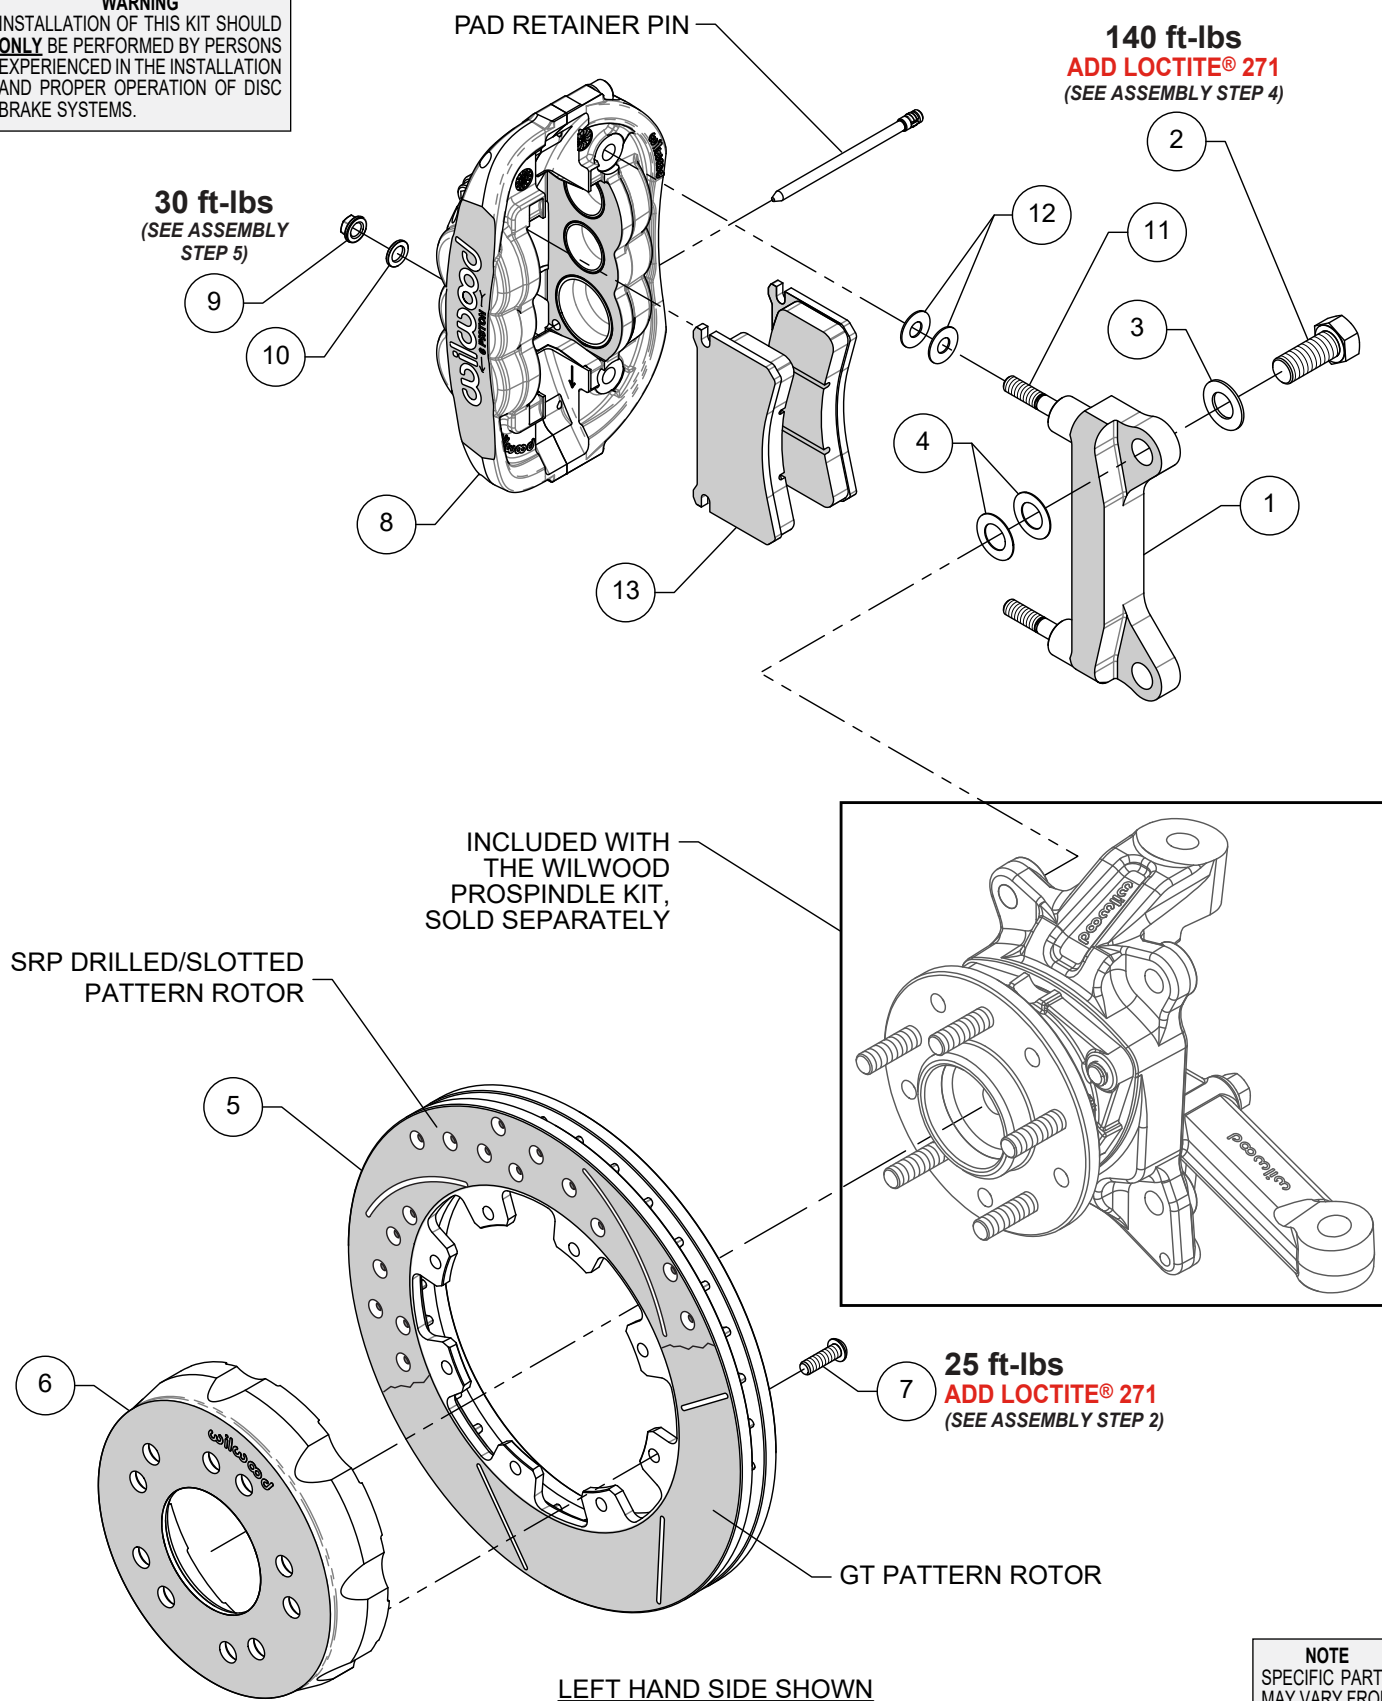

Figure 1. Typical Installation Configuration
NOTE: Numbers in parenthesis refer to the parts list and Figure 1 on the preceding pages.
STEP 1 The caliper mount bracket (1) should initially be installed with clean, dry threads on the mounting bolts. Orient the bracket as shown in Figure 1 and Photo 1 and install using mount bolts (2) and washers (3). Initially place two .024" thick shims (4) on each bolt between the bracket and spindle, Figure 1. Temporarily tighten the mounting bolts. **NOTE:** The bracket must fit squarely against the mounting points on the spindle. Inspect for interference from casting irregularities, machining ridges, burrs, etc. Later, after the caliper alignment has been checked, the mount bolts will be secured using red *Loctite*® 271.
STEP 2 Orient the rotor (5) and the hat (6) as shown in Figure 1 and Photo 2. Attach rotor to hat using bolts (7). Apply red *Loctite*® 271 to the bolt threads and torque to value shown in Figure 1 using a criss-cross pattern.
STEP 4 **NOTE:** This kit contains distinct right and left hand calipers that must be mounted in a specific direction, as described below. Initially place two .035" thick shims (12) on each stud (11) between the caliper and the bracket, as shown in Figure 1 and Photo 4. Mount the caliper (8) onto the bracket (1) using lock nuts (9) and washers (10), Figure 1. Ensure that the caliper is mounted so the largest pistons are at the rotor exit end of the caliper, in relation to the direction of forward rotor rotation. Temporarily tighten the lock nuts and view the rotor through the top opening of the caliper. The rotor should be centered in the caliper, Photo 5. If not, adjust by adding or subtracting shims (4) between the bracket and the spindle. Always use the same amount of shims on each of the two mounting bolts. Once the caliper alignment is correct, remove the bracket mounting bolts one at a time, apply red *Loctite*® 271 to the threads, and torque to value shown in Figure 1.
STEP 5 Remove the caliper, then remove the two pad retaining pins from the caliper (8), Figure 1. Insert the brake pads (13) into the caliper from the bottom, with the friction material facing the rotor, as shown in Photo 6. Secure the brake pads in place with the pad retaining pins, Figure 1. **CAUTION:** Ensure pad retaining pins are completely engaged into caliper. It is recommended to use a small flat punch and hammer to tap the pins in until they are fully seated. Check that the top of the brake pad is flush with the outside diameter of the rotor, Photo 7. If not, adjust by adding or subtracting shims (12) between the caliper and the bracket. After the caliper pad height is set, torque the caliper lock nuts (9) to value shown in Figure 1.